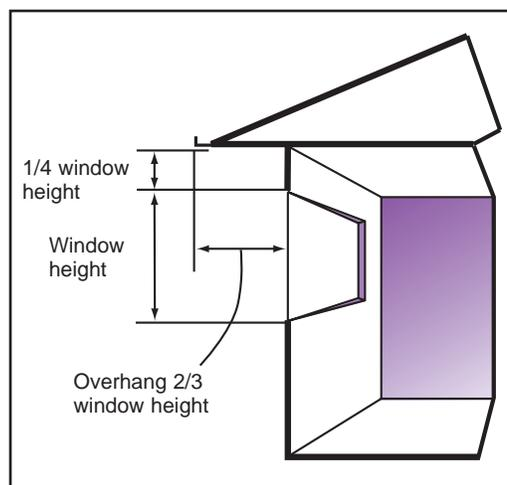

Fig. B-3: Overhang length for a south-facing window
- Use overhangs to reduce overheating in the summer when the sun is high overhead (see Figure B-3).